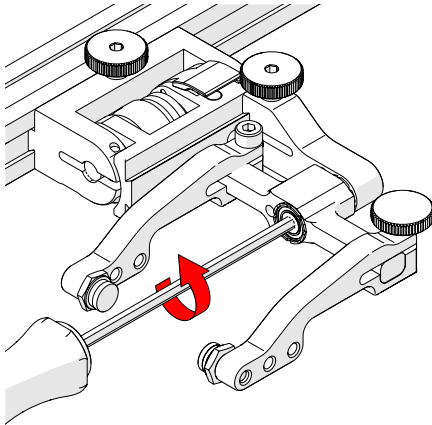

Fig. 167 - Unscrew yoke pivot screw
1. Unscrew the yoke from the swing arm (Fig. 167).